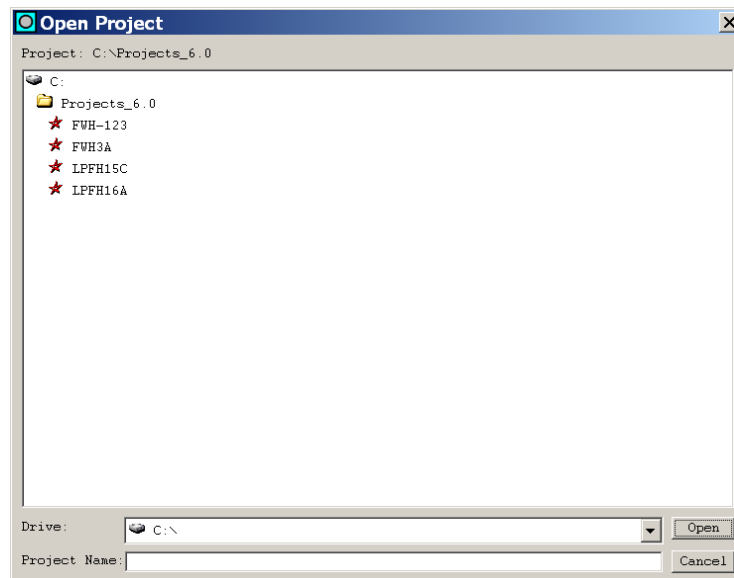

Figure 4. Open Project Dialog
| Figure 4. Open Project Dialog | 4 |
- o **File | Open Project** (Ctrl+O) displays the **Open Project** dialog shown in Figure 4. Simply select the desired project file from those listed and click the **Open** button. Alternatively, you may simply double-click a file name as with any other Windows program. Afterwards, the program opens the project and displays the *project.cmp* file in the working area of the main window.